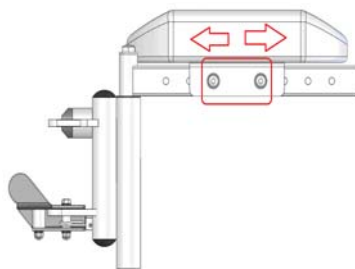

Figure 5-13
5.3.1.3.5 Use the #4 Allen Key Wrench and the #10 box end Wrench to make this adjustment. Remove the screws then adjust the footrest to accommodate the user's leg position and flexibility (Figure 5-13). Re-tighten the screws.